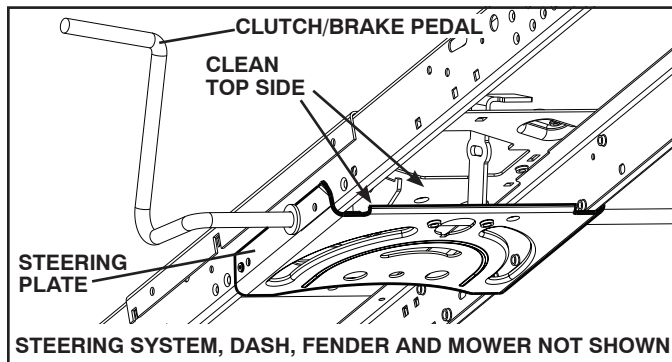

Fig. 40
- Clean debris from steering plate. Debris can restrict clutch/brake pedal shaft movement, causing belt slip and loss of drive. See Fig. 40